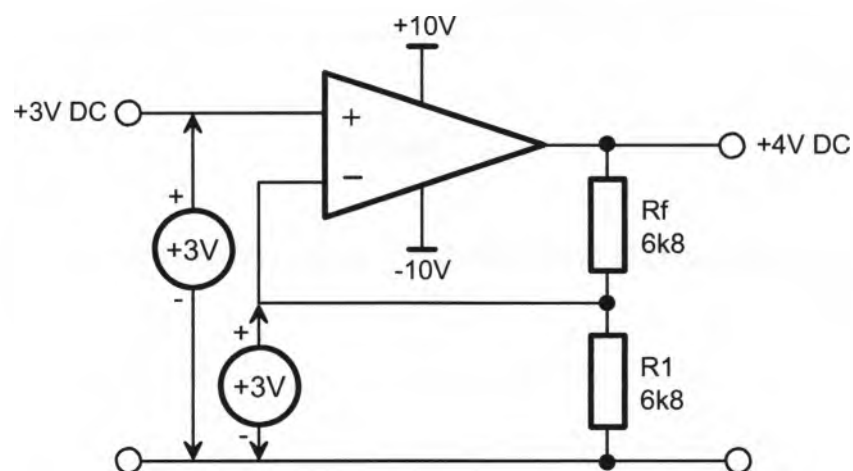

Figure 4
20. Figure 4 below shows a faulty non-inverting amplifier with input and output voltages shown together with the voltages on the op amp's non-inverting and inverting pins. State what component in the circuit is faulty and what's wrong with it.